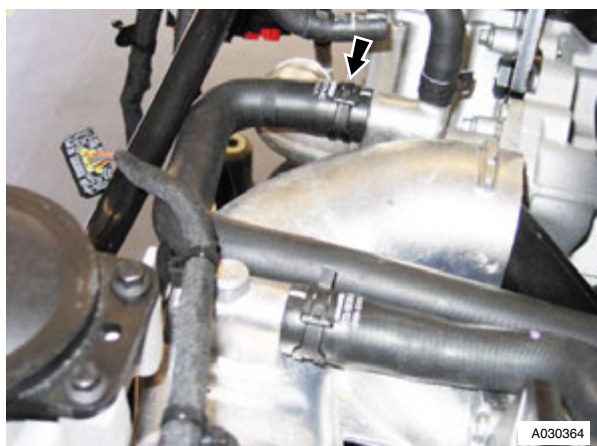

Figure 2
3. Disconnect top hose (clip x1) (refer to Figure 2).